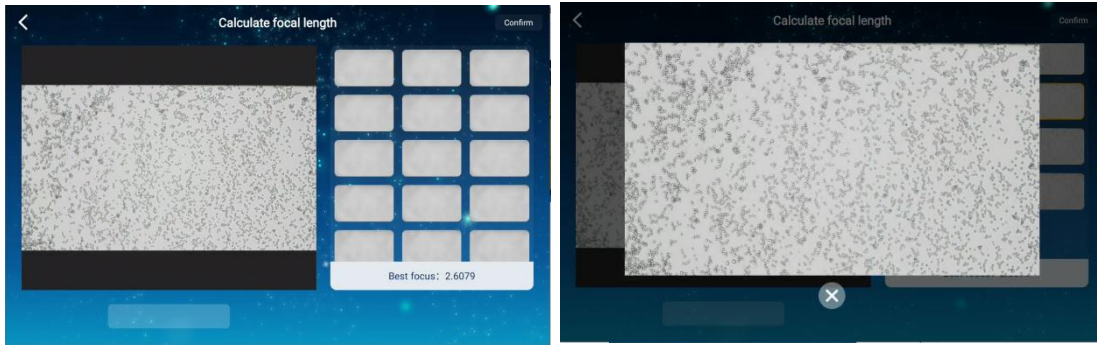

Fig. 2.74 User interface during performing best focus calibration (ti huan)
- The focal length calibration is finished with a two-step procedure: The focal length calibration of first obtained image are a base for a coarse adjustment of the focus. During this process, the user interface displays the **Coarse best focus** value, as shown in **Fig. 2.74**